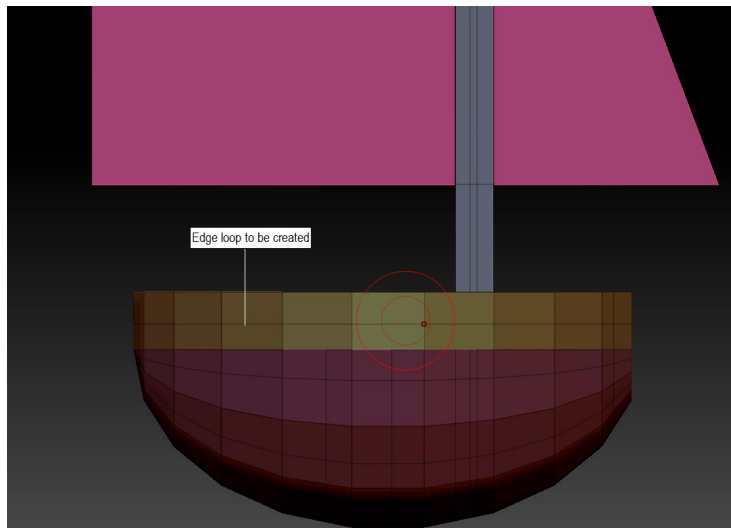

Figure 3-130 Edge loop is created
1. Hover the cursor over the boat edge and then right-click; the **ZMODELER** window is displayed. Next, make sure the **Insert** option in the **EDGE ACTIONS** area and the **Single EdgeLoop** option in the **TARGET** area is chosen. Now, click on the edge of the boat; the edge loop is created in the *boat*, as shown in Figure 3-130.